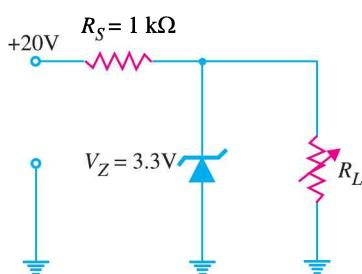

Fig. 17.32
- The zener diode in Fig. 17.32 has values of  $I_{Z(min)} = 3$  mA and  $I_{Z(max)} = 100$  mA. What is the minimum allowable value of  $R_L$  ? [241  $\Omega$ ]